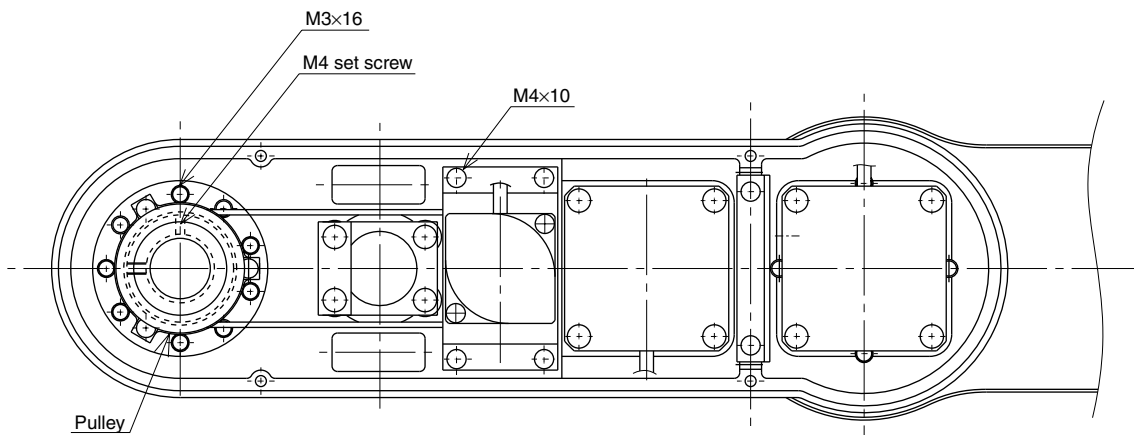
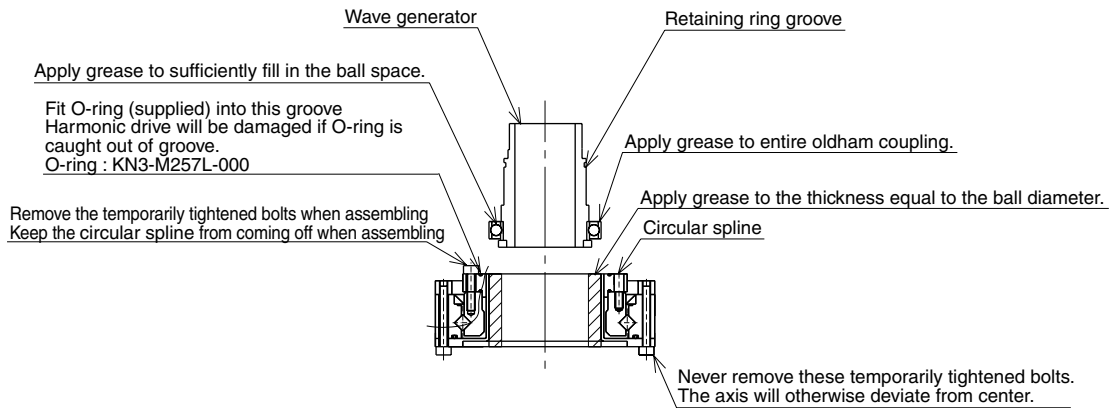

Fig. 5-32
Fig. 5-33
- 9) Remove the bolts (M4×10L, 4 pieces) securing the R-axis motor plate at the top of the Y-axis arm. (See Fig. 5-32.)
- 10) Loosen the pulley set screw (M4, 2 pieces) and remove the pulley from the wave generator. (See Fig. 5-32.)
- 11) Remove the harmonic drive installation bolts (M3×16L, 9 pieces) and pull out the harmonic drive from the bottom of the Y-axis arm. (See Fig. 5-32.)
- 13) Apply harmonic grease to the new wave generator. See Fig. 5-33 for applying grease properly.
See Fig. 5-33 for applying grease properly.
REMOVE ONLY THE FOUR BOLTS SHOWN IN FIG. 5-33 AT THIS POINT. NEVER REMOVE THE BOLTS ON THE OPPOSITE SIDE. IF THEY ARE REMOVED, THE HARMONIC DRIVE AXIS MAY DEVIATE FROM THE CENTER CAUSING A TROUBLE.
- 17) Fit an O-ring (supplied with the harmonic drive) coated with harmonic grease into the O-ring groove on the new harmonic drive. (See Fig. 5-33.) Apply small amounts of “Screw Lock” to the bolts (M3×16L, 9 pieces) and tighten them to secure the harmonic drive to the Y-axis arm from the top of the Y-axis arm. (See Fig. 5-32.)
- 18) Apply small amounts of “Screw Lock” to the M4 set screws (2 pieces) and tighten them to secure the pulley to the wave generator. (See Fig. 5-32.)
- 19) Fit the timing belt onto the wave generator pulley and motor pulley, and then secure the motor plate. (See Fig. 5-32.)